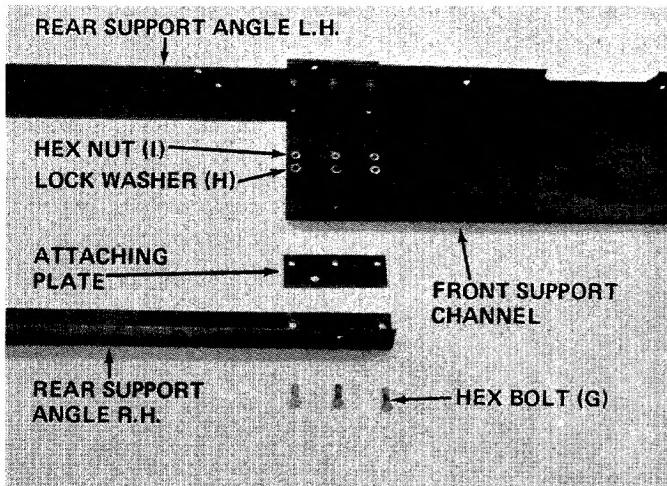

FIGURE 8
- Place the front support channel on a work bench or the floor. Place the rear support angles in position as shown in figure 8.
- Place the attaching plates between front support channel and rear support angles. See figure 8.
- Place hex bolts (G) through holes in side of rear support angles, attaching plates and front support channel. See figure 8.
- Secure hex bolts (G) with lock washers (H) and hex nuts (I). Make only finger tight. See figure 8.